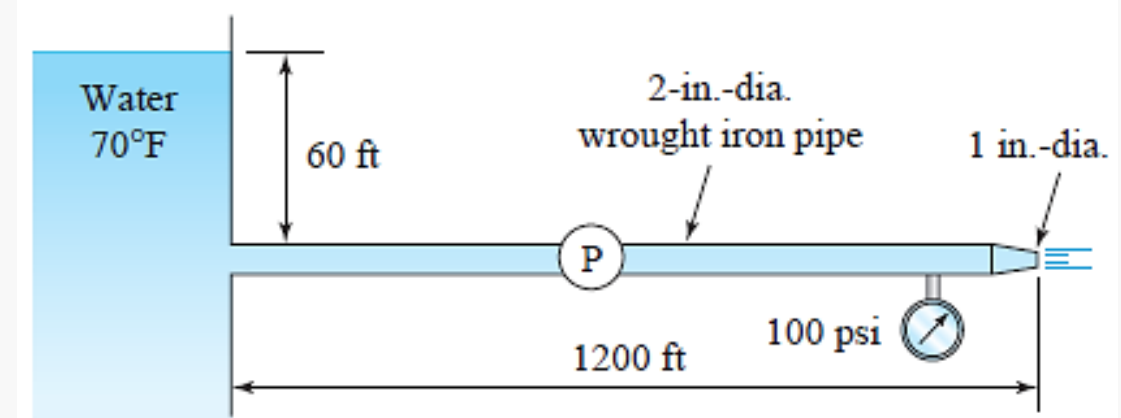

Fig. P7.134
7.134 What pump power (75% efficient) is needed in the piping system shown in Fig. P7.134? What is the greatest distance from the reservoir that the pump can be located?